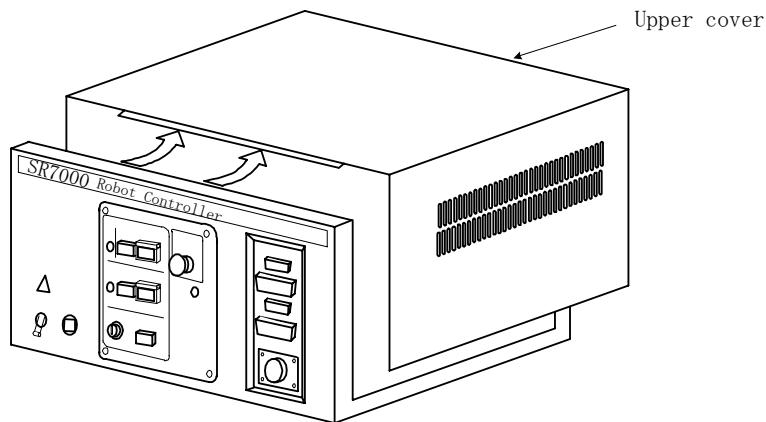

Fig. 2.21 Upper cover
- (2) The cable connectors are connected to the rear side of the controller, so provide a space of 110mm at the rear side.
- (3) The upper cover must be removed during maintenance. (See Fig. 2.21.)